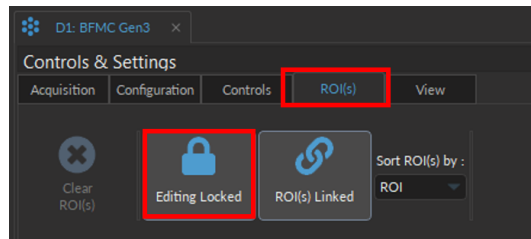

Figure 1.15: *Lock the ROIs*
- After all ROIs are properly positioned, switch to the **ROIs** tab, and select **Editing Locked** to lock the ROIs in place (Fig. 1.15). This will prevent accidentally moving the ROIs.